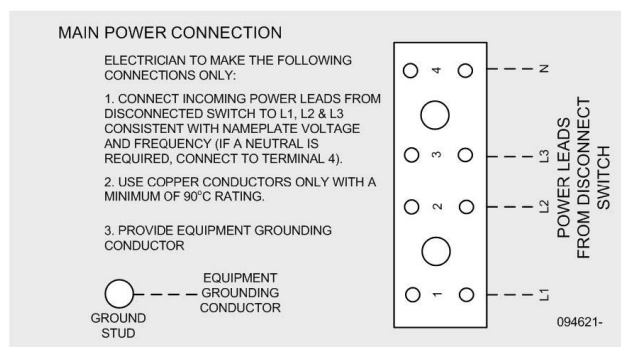

Figure 3-3 Sample Label
- Refer to the label in the electrical box to configure your chiller, see Figure 3-3.